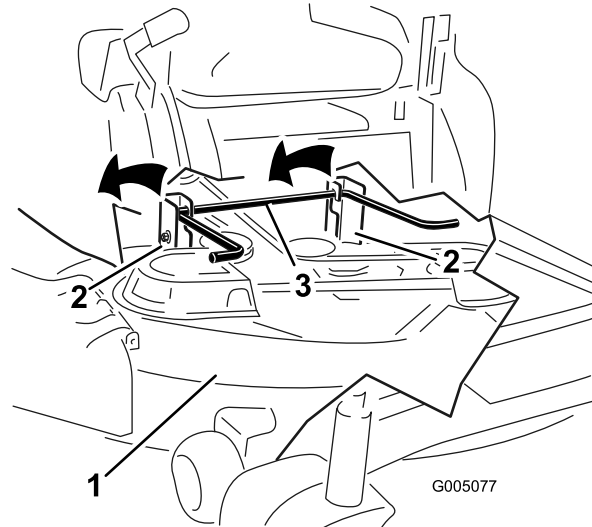

Figure 55
5. Lift the mower deck and hanger brackets clear of the rear lift rod and lower the mower carefully to the ground (Figure 55).
5. Lift the rear of the mower deck and guide the hanger brackets over the rear lift rod (Figure 55).